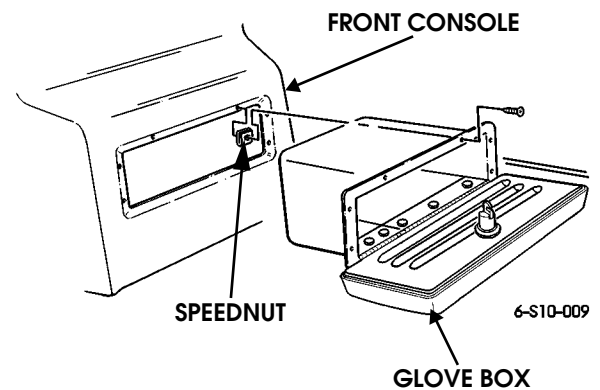

Figure 10-14: Glovebox Mounting
- f. Remove screws, glovebox, and speednuts (Figure 10-14).